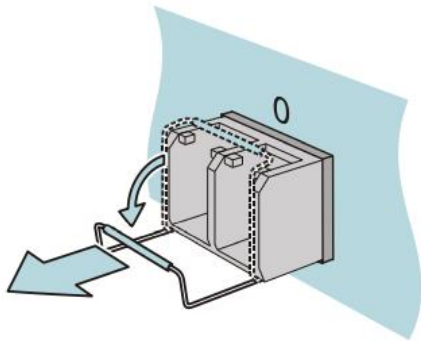

Figure 35: Releasing the lock
- Release the lock and pull the SFP transceiver out of the device slot. See Figure 35.